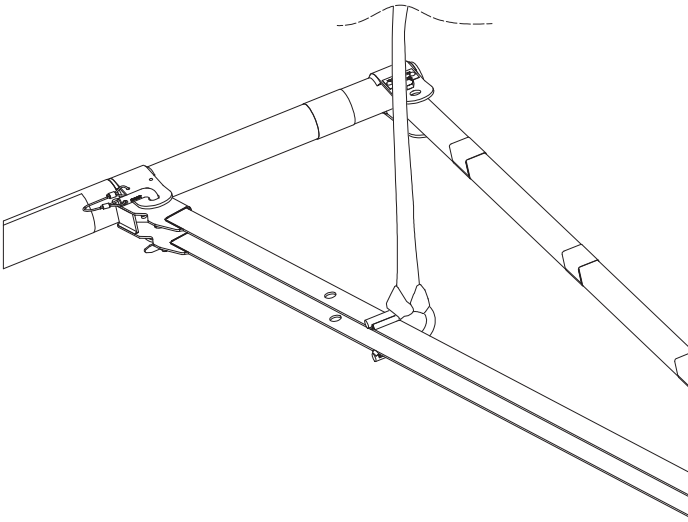

Figure 30. *Detail of sling installation.*
- 10.3 Make sure that the incorporated Endless Webbing Sling is attached correctly, see Figure 30. The Sling is used for positioning and repositioning of the SkyReach Anchor to the required location in the Top Column 4.7/SkyReach Adaptor 5.9.